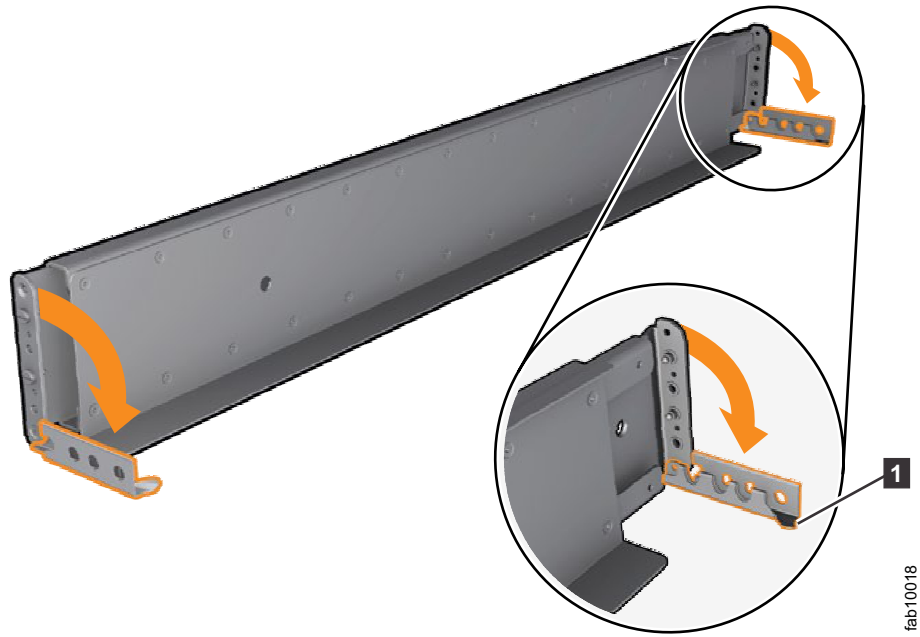

Figure 10. Opening the hinge brackets
5. At each end of the rail, grasp the tab **1** and pull *firmly* to open the hinge bracket. (See Figure 10 on page 14.)